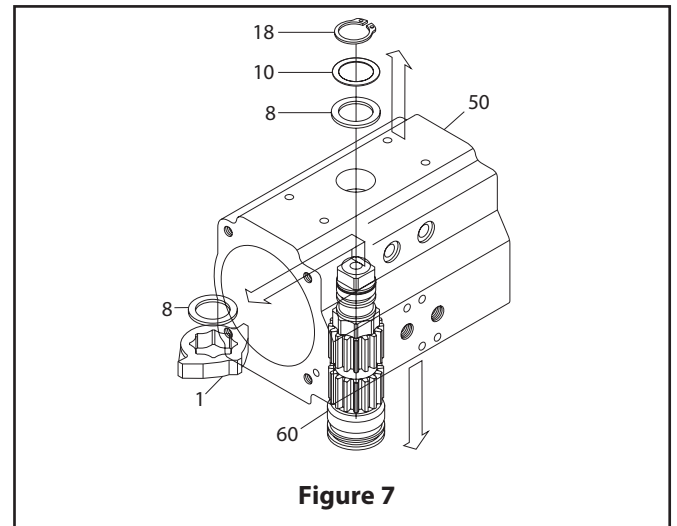

Figure 7
- B. Remove piston o-ring seal (16) using a screwdriver. Remove the piston head (15) and piston back (5) bearings. Discard bearings if replacing all soft parts.
5. Drive Shaft (60) and Bearing (6, 7) Disassembly, (Figure 7):